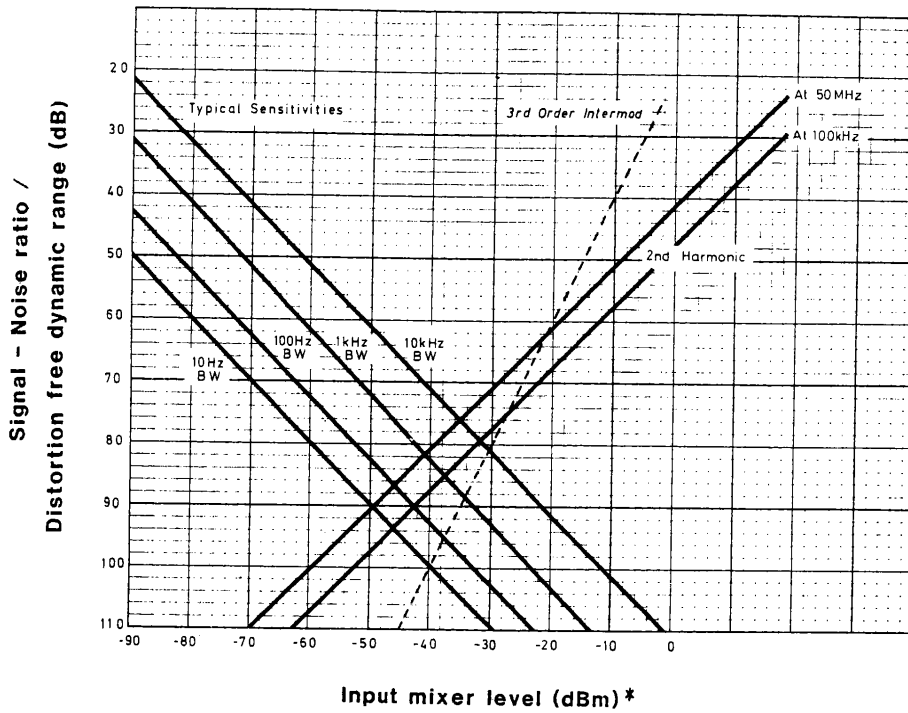

Fig. 1-4 Optimum dynamic range
With a sinusoidal signal at -42 dBm at the input mixer*, any internally generated harmonic distortion product is greater than 80 dB down on the fundamental. Refer to Fig. 1-4 for other levels.
-95 dBc for on-screen signals using the 3 Hz filter at -42 dBm at the input mixer.* Refer to Fig. 1-4 for other levels.